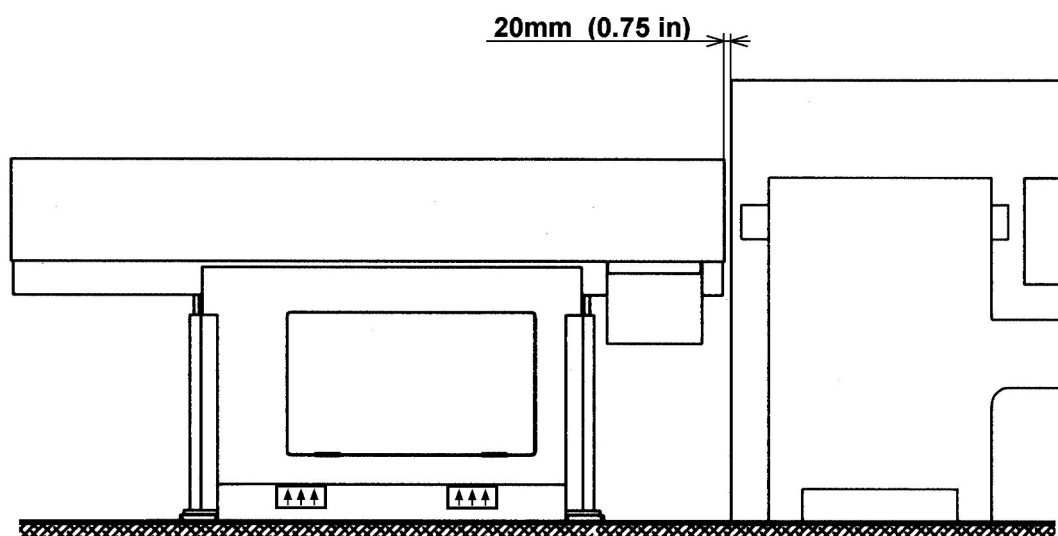

Fig. 2.1 - Barfeeder Lifting and Seating
- Put the barfeeder on the rear side of the lathe as shown in Fig. 2.1. The distance between the rear side (rear end) of the lathe spindle and front cover of the barfeeder should be as small as possible. The gap between the barfeeder cover and lathe cover must not exceed 20 mm or it is necessary to disable insertion of the hand palm between the barfeeder and the lathe.
Observe prescribed distances in installation, see Fig. 2.1.